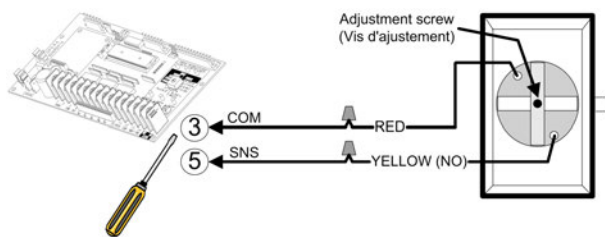
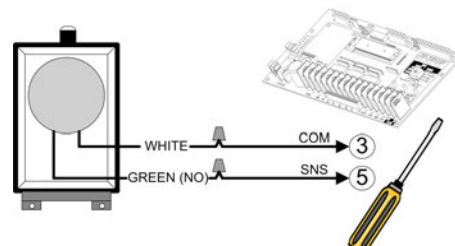

Figure 14 - AIRSWITCH 001 / 007
Figure 15 - AIRSWITCH 009
3. Use a coil cord or take-up reel to connect the air switch to the operator terminals. Install electric wires according to Figure 14 or Figure 15.